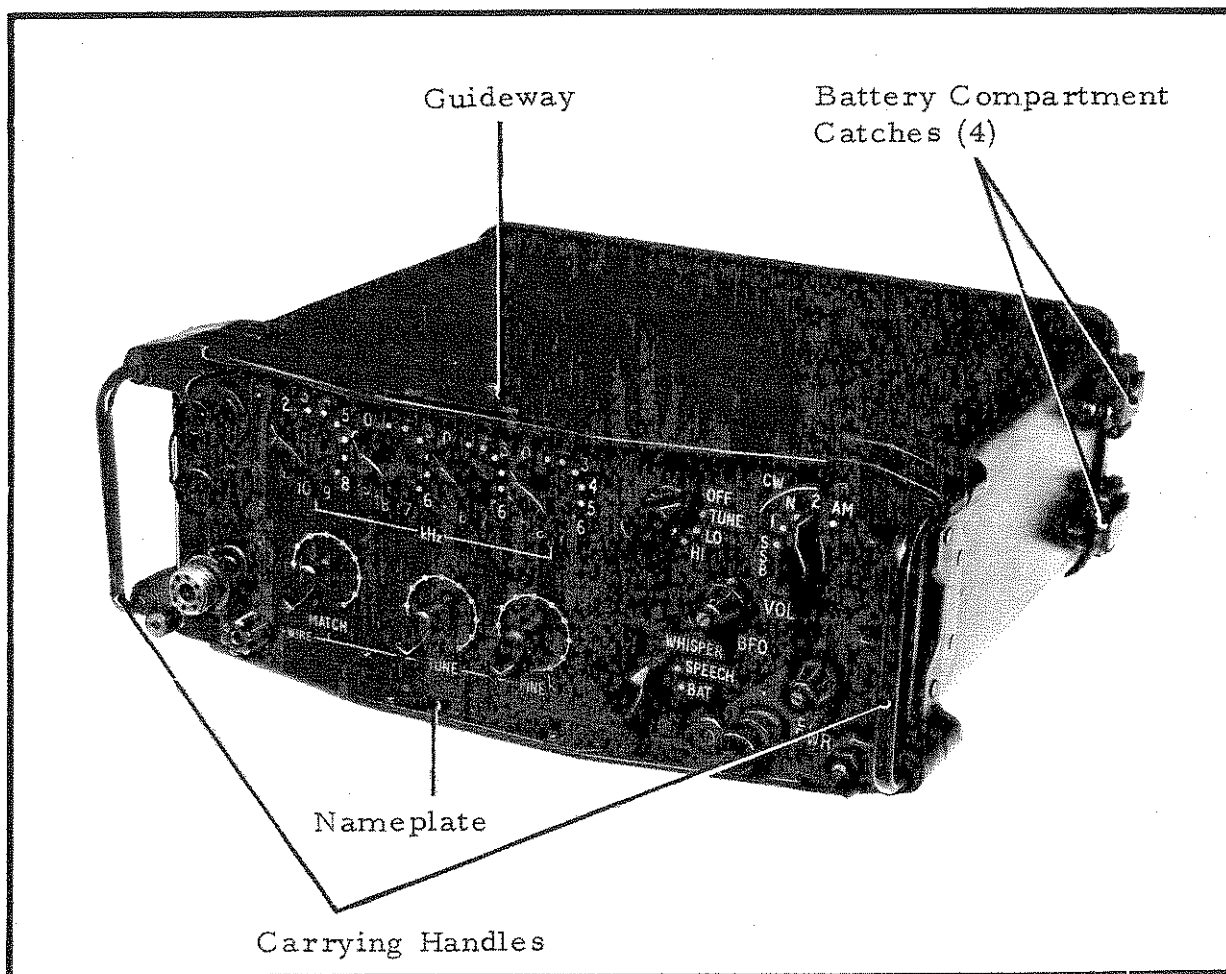

FIG 17
28. Receiver-Transmitter, Radio RT-F1/PRC. (Fig 17). This transceiver is a compact, lightweight unit, housed in a case of magnesium alloy. The case is pancrimatically sealed by a rubber gasket between the front panel and the main body, the two assemblies being held together by a captive screw at each of the four corners. The battery is carried in a separate compartment on the rear of the case. The lid of the case is secured by four spring catches which facilitate rapid replacement of the battery in the field.